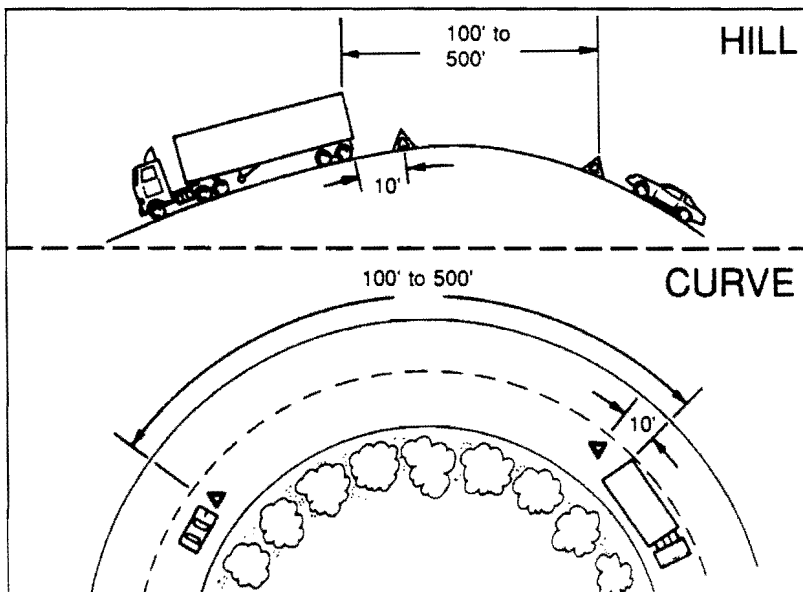

Figure 2-9.
- Back beyond any hill, curve, or other obstruction that prevents other drivers from seeing the vehicle within 500 feet. (See Figure 2-9.)